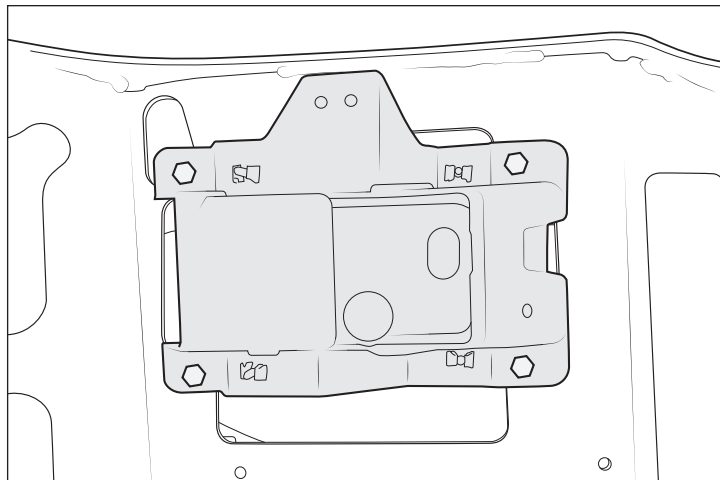

Figure 25
2. If equipped, install the factory fog lights into the bumper corners using factory hardware and torque to 9 lb-ft (fig. 25).